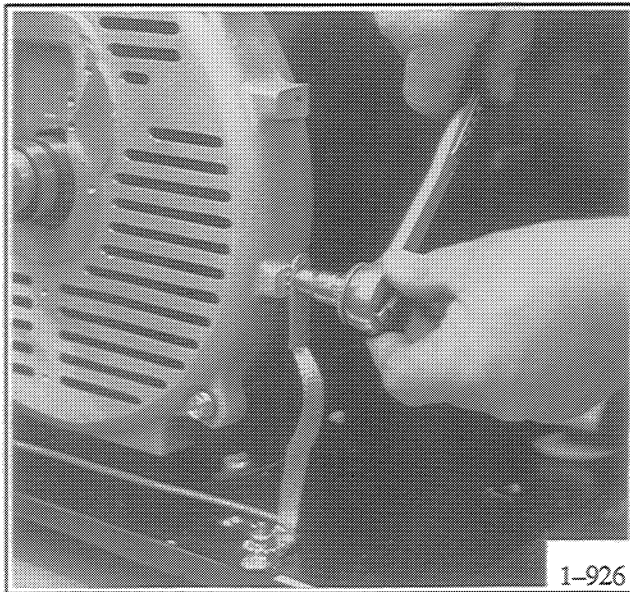

Figure 8-15. Removing Ground Strap
19. Remove one screw securing ground strap using 3/8 in. socket wrench. See Figure 8-15.